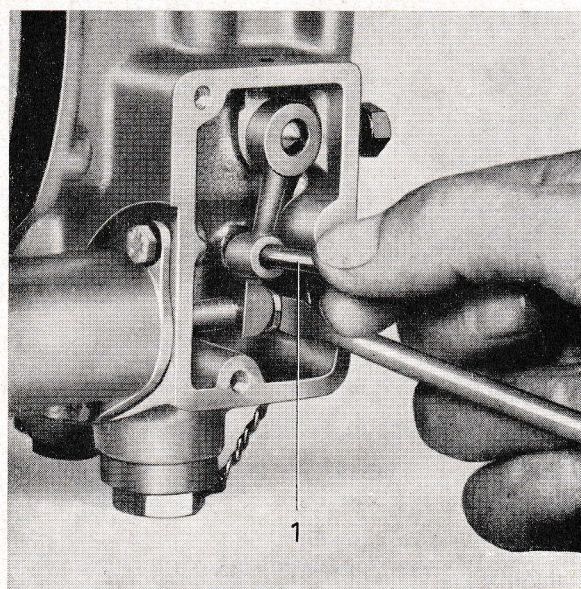

Fig. 26. Adjusting the control valve
9. Fit the other parts in the reverse order to removing. Press in the solenoid armature as far as it will go and check that a 3/16" (4.75 mm) diameter pin can be inserted through the hole in the lever and into the housing, see Fig. 26.